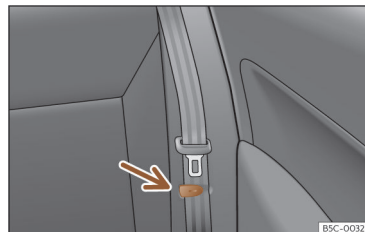

Fig. 94 Rear seat: clip to hold the seatbelt in place.
- Place the side seat belts in the trim clip >>> **Fig. 94**.